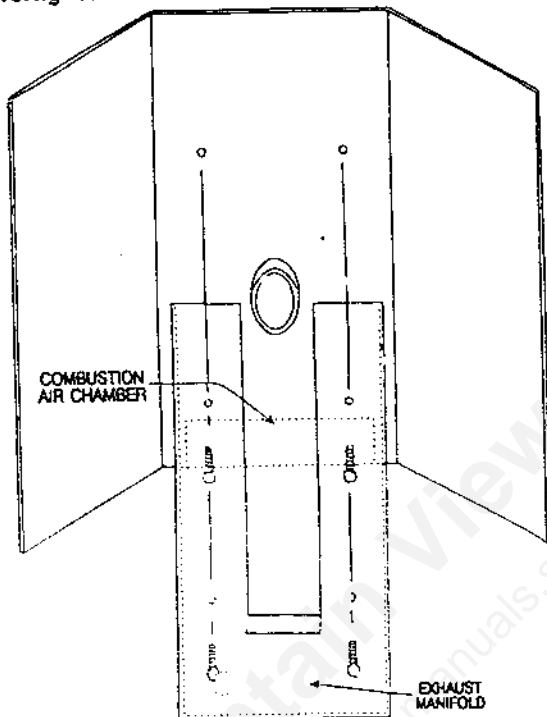

FIGURE 11
### 4.1 Ash Disposal/Burn Pot (see figure 11)
- Remove burn pot and ash pan. Remove firebox baffle (lift and remove from tabs). Use  $\frac{3}{8}$ " wrench to remove four bolts (see Figure 11). Remove manifold.
- Cleaning** — Over a period of time, ashes or dust may collect on the blades of both the combustion blower and convection blower. Periodically the blowers should be vacuumed clean as dust and ashes can impede performance. Creosote can also accumulate in the combustion blower. This needs to be brushed clean. The convection blower is accessed by removing the stove's left side panel and the combustion blower is accessed by removing the exhaust manifold (see figure 11). **NOTE: Be careful when cleaning not to dislodge balancing clip on convection blower, or bend fan blades.**